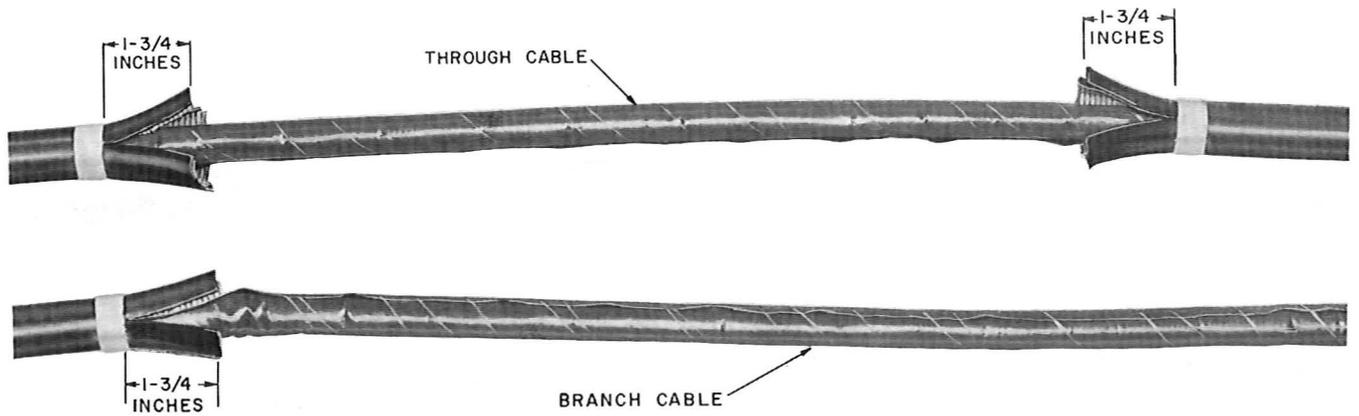

Fig. 18—1-3/4 Inch Tabs Cut
5.10 Cut 1-3/4 inch long tabs in each end of the sheath opening as shown in Fig. 18. **Exercise care not to damage the core wrapper.**